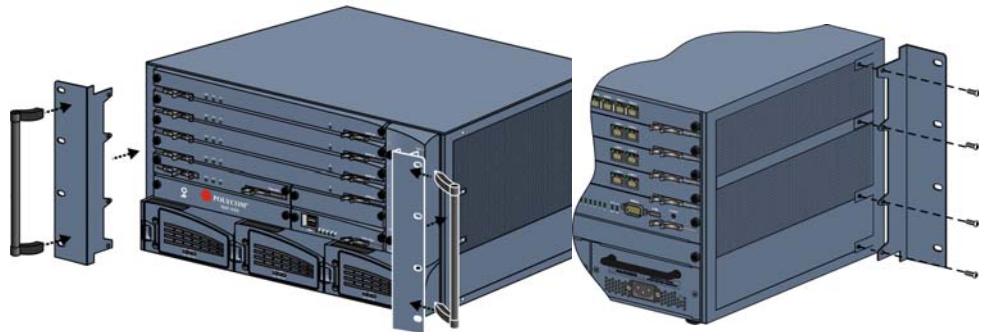

Figure 1-5 Installing the handles and brackets & detailed rear view of 23" bracket attachment
- 2 After removal, attach the 23" brackets as provided in the *Rack Installation Accessories* kit, and re-install the handles to the 23" brackets. This is shown in Figure 1-5.